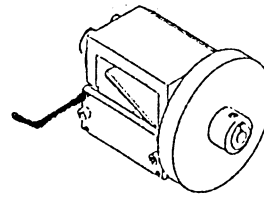

FIGURE 2
Step 4. Using a $1/16$ " hex wrench, insert the wrench through the top clearance hole in the stationary blade. Engage the #6-32 X $1/4$ " socket set screw. Please refer to Figure 2.